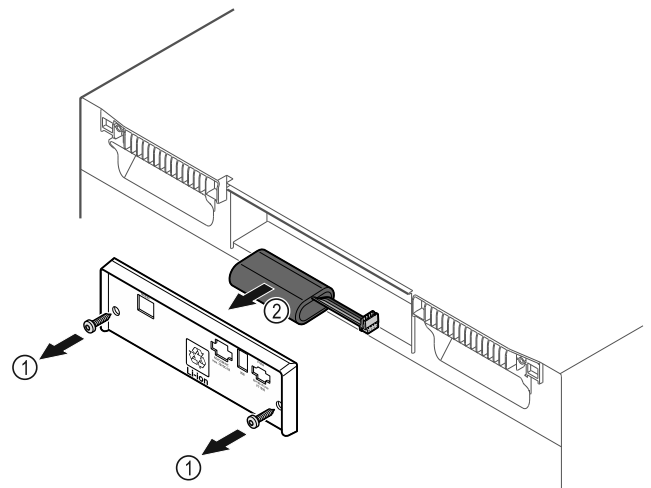

Fig. 147
- ▶ Unscrew screws and remove cover from the back of the appliance Fig. 147 (1).
- ▶ Disconnect and remove battery Fig. 147 (2).